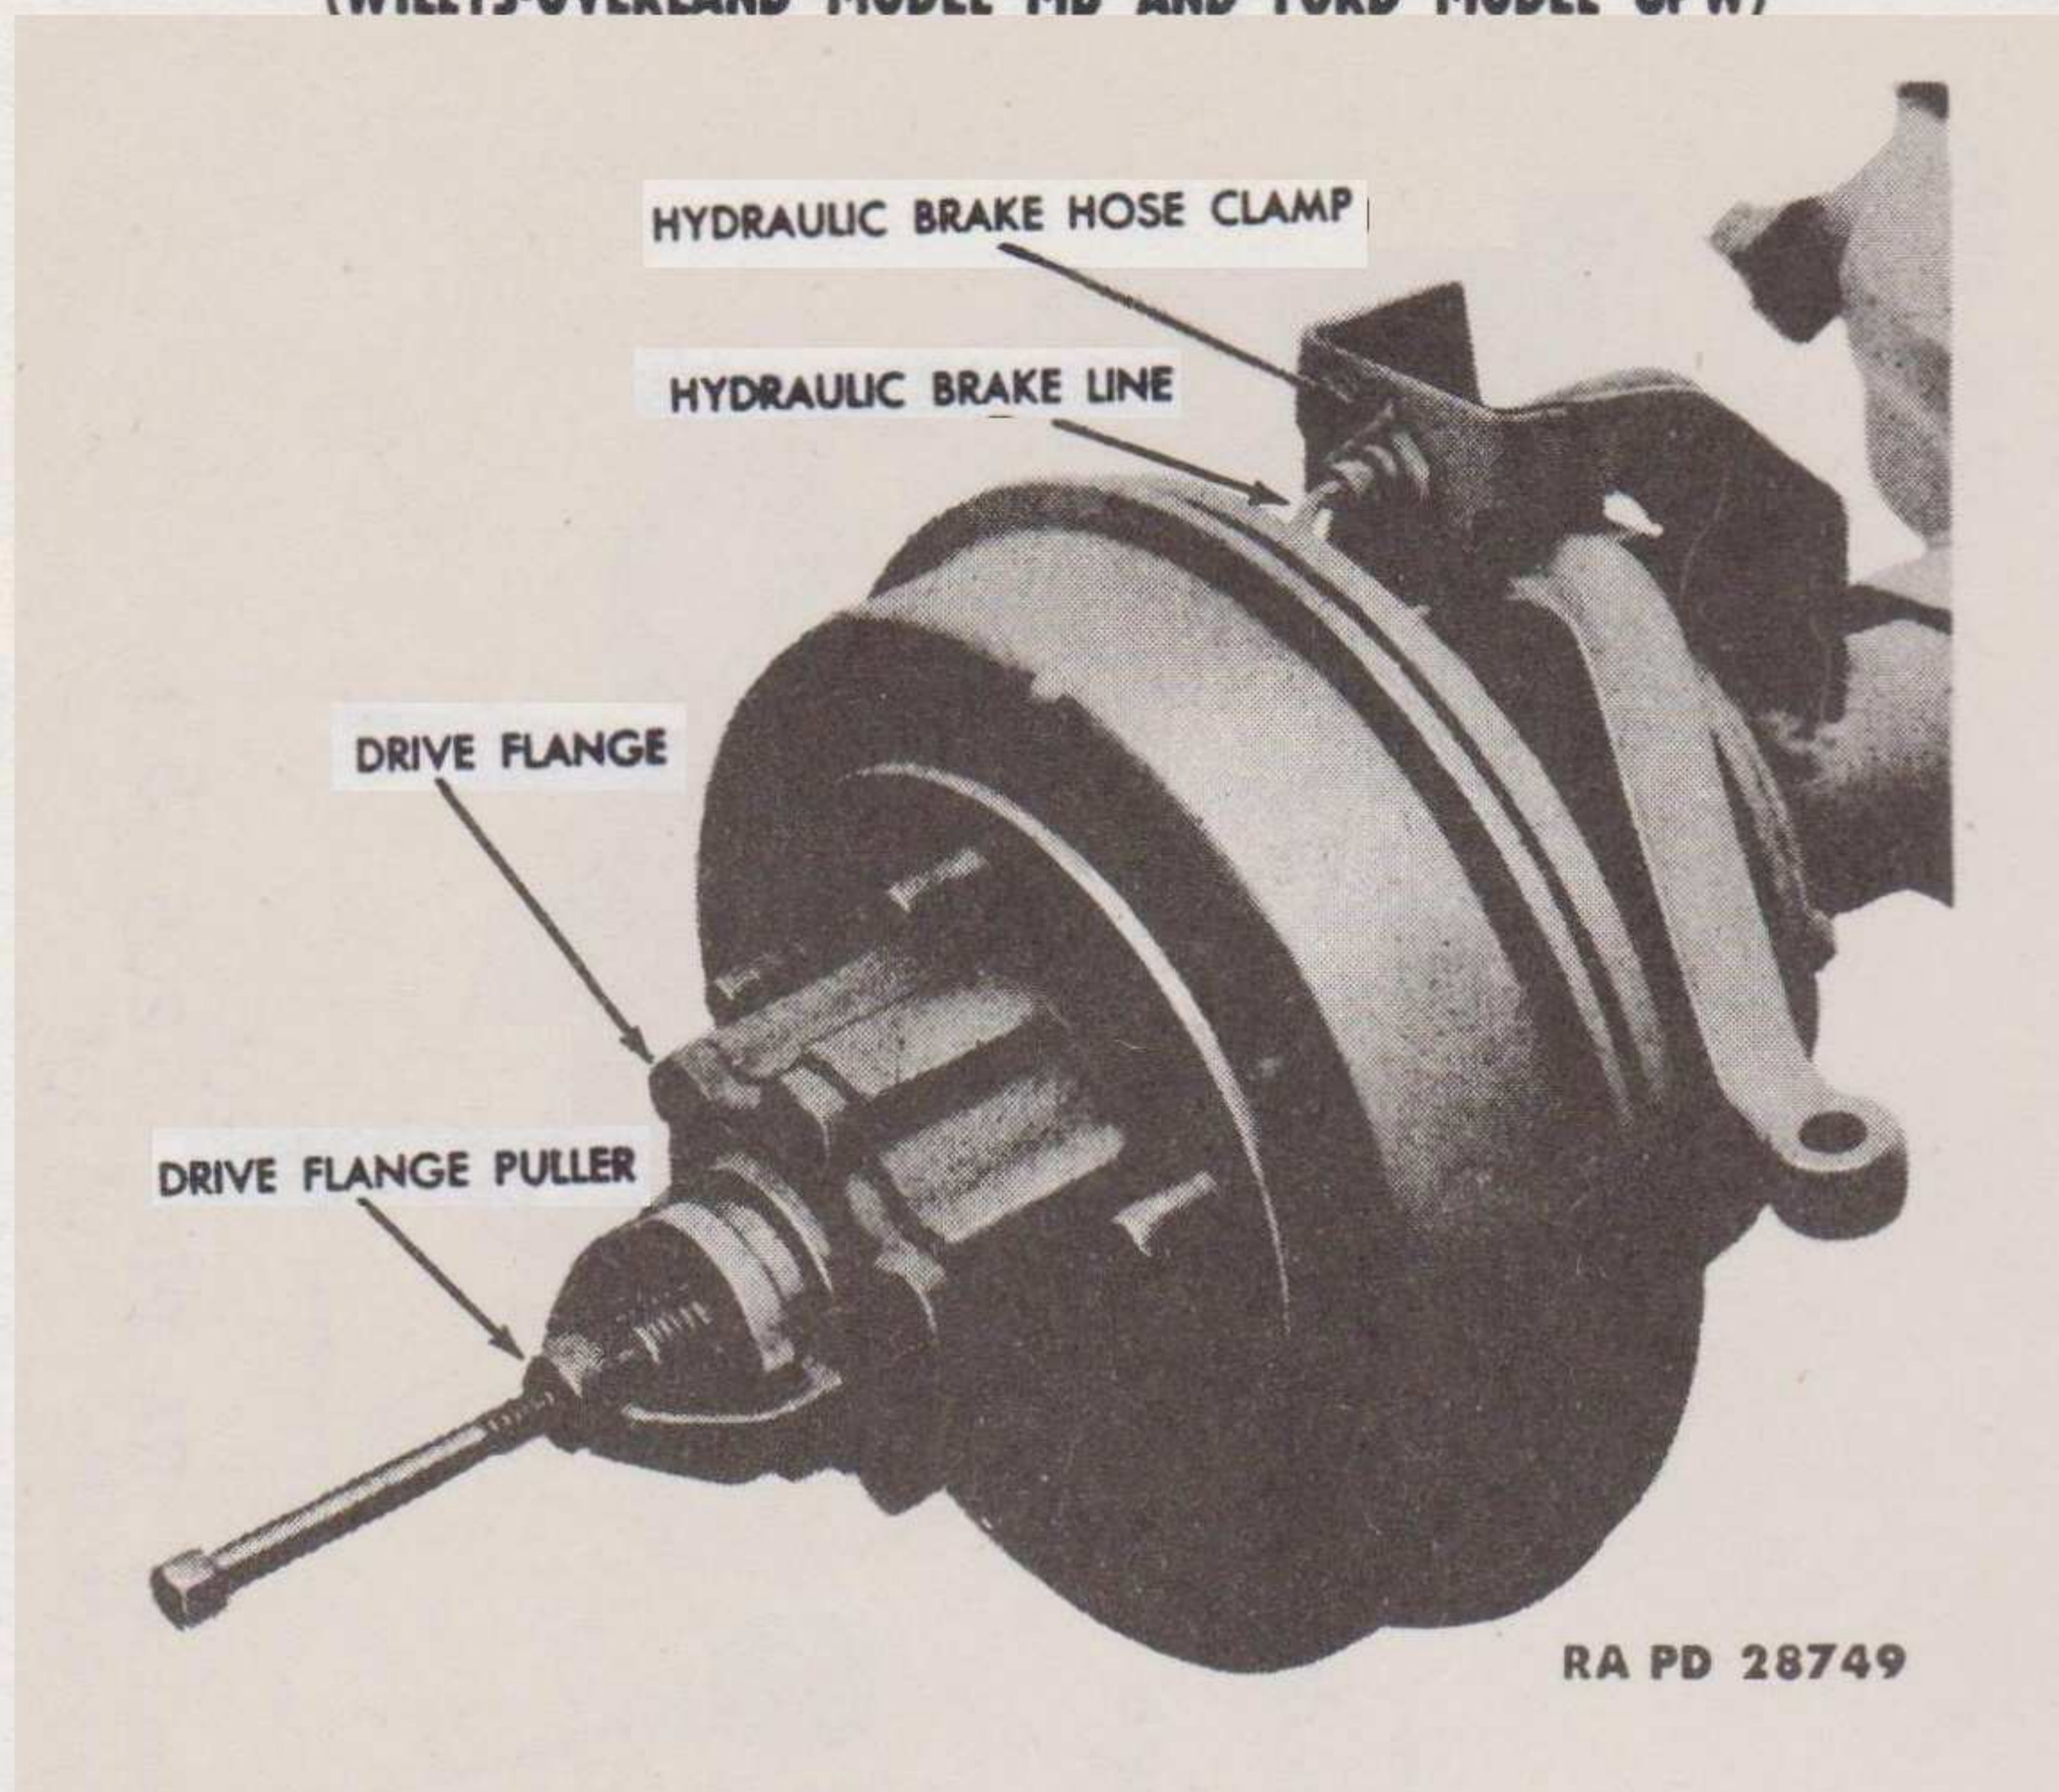

Figure 36 — Removing Drive Flange With Puller Similar to Puller 41-P-2912
b. **Remove Axle Shaft Assembly.** Using a screwdriver, pry the hub cap off the drive flange. Remove the cotter pin and castellated nut from the axle shaft. Remove the six cap screws that secure the drive flange to the hub. Install the puller 41-P-2912 or similar on the drive flange and remove the drive flange (fig. 36). Bend the ear of the lock washer off the bearing lock nut. Remove the bearing lock nut, lock washer, and bearing adjustment nut, using the wheel bearing nut wrench 41-W-3825-200 furnished with the vehicle (fig. 37). Slide the brake drum and hub assembly, including the wheel bearings, off the spindle. Disconnect the hydraulic brake line at the brake hose guard (fig. 36). Remove the six cap screws that secure the brake plate to the spindle housing. Remove the brake plate from the spindle. Slide the spindle off the axle shaft. The axle shaft can now be removed from the housing. If equipped with a Tracta universal joint axle shaft, see subparagraph c, below. Use the same procedure to disassemble the other end of the front axle shaft.